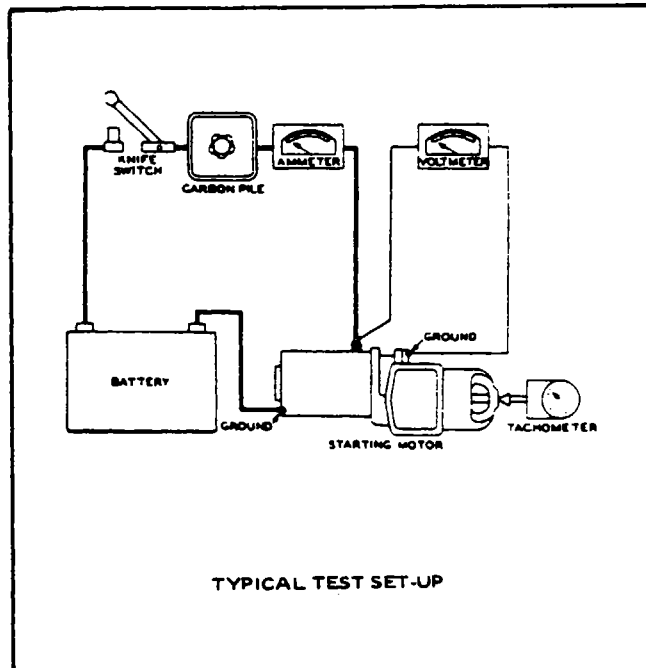

Figure 11-19. No-Load Test Hookup
a. After the starting motor is reassembled, it should be tested to see that the no-load current at a certain voltage is within specifications as given in Paragraph 11-40. To make this test, connect as shown in Figure 11-19. If current is too high, check the bearing alignment and end play to make sure there is no binding or interference. Two or three sharp raps on the frame with a rawhide hammer will often help to align the bearings and free the armature.